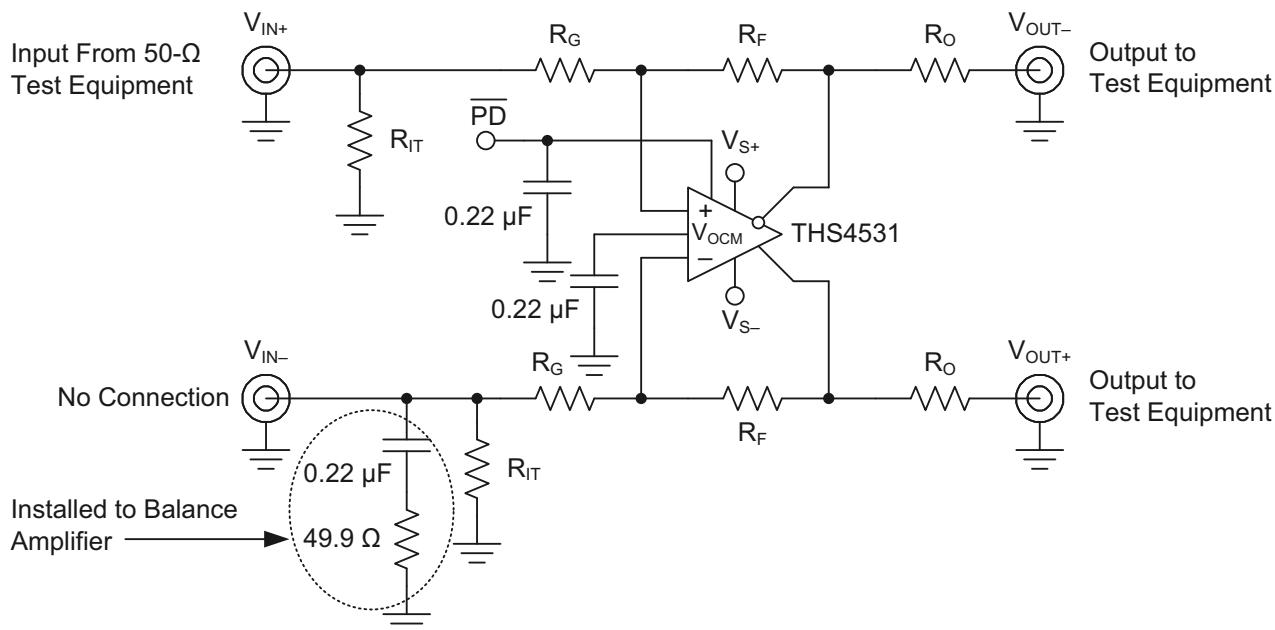
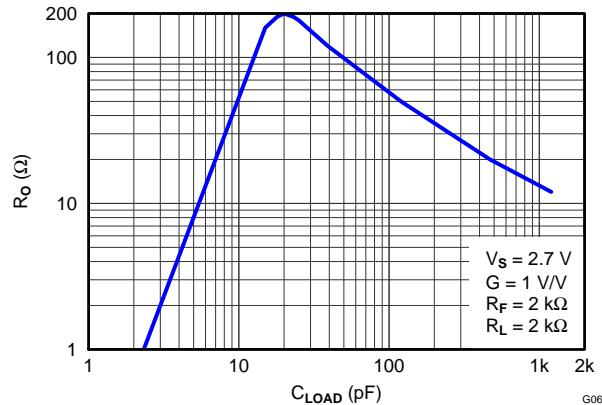
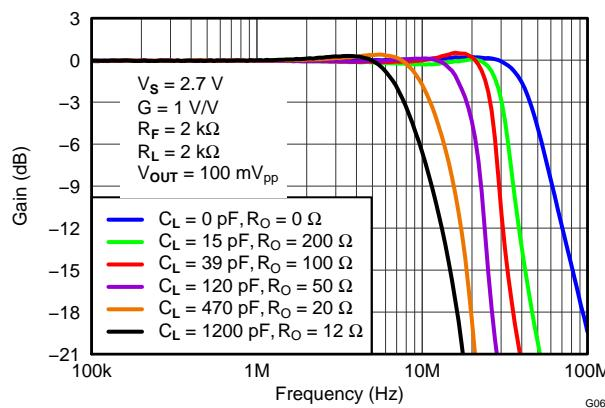

Figure 69. Slew Rate, Transient Response, Settling Time, Z_o , Overdrive Recovery, V_{oout} Swing, and Turn-on/off Test Circuit
Figure 78. Recommended Series Output Resistor vs Capacitive Load for Flat Frequency Response
Figure 79. Frequency Response for Various R_O and C_L Values
The circuit shown in Figure 69 is used to measure slew rate, transient response, settling time, overdrive recovery, and output voltage swing. Turn on and turn off times are measured with 50Ω input termination on the PD input, by replacing the $0.22\mu\text{F}$ capacitor with 49.9Ω resistor.
Inserting R_O will compensate the phase shift and restore the phase margin, but it will also limit bandwidth. The circuit shown in Figure 69 is used to test for best R_O versus capacitive loads, C_L , with a capacitance placed differential across the V_{OUT+} and V_{OUT-} along with 2k Ω load resistor, and the output is measured with a differential probe. Figure 78 shows the optimum values of R_O versus capacitive loads, C_L , and Figure 79 shows the frequency response with various values. Performance is the same on both 2.7V and 5V supply.
4. A series output resistor is recommended to be placed as near to the output pin as possible. See Figure 78 "Recommended Series Output Resistor vs. Capacitive Load" for recommended values given expected capacitive load of design.